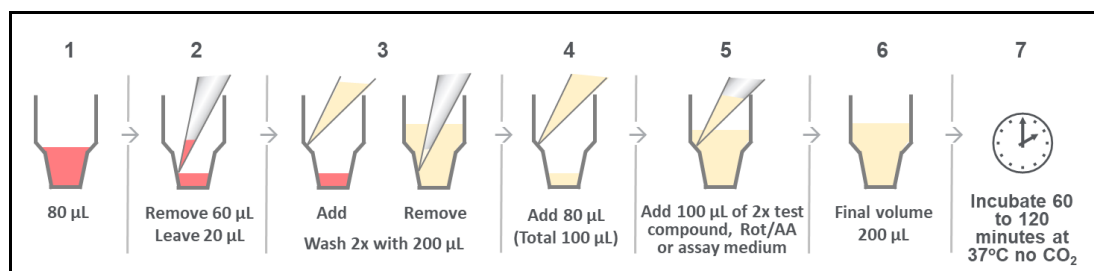

Figure 7. XF Pro M cell plate preparation and test compound pre-incubation. Leave 20 µL of medium at each wash step to minimize damage to the cell monolayer.
- 2 Wash the cell plate twice with prewarmed assay medium, as indicated in Figure 7. After wash, leave 100 µL medium in each well (see step 4 in Figure 7).
- If an acute injection is desired, adjust the starting volume in each well to 175 μ L in the last wash step (step 6 in Figure 7), as the final volume before the start of the assay.